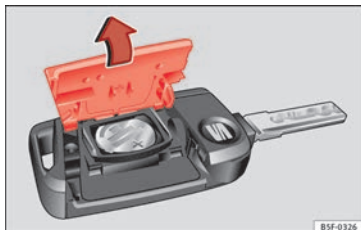

Fig. 137 Vehicle key: opening the battery compartment.
- Remove the cover from the back of the vehicle key » **Fig. 137** in the direction of the arrow » .
- Fit the cover as shown » **Fig. 137**, pressing it onto the vehicle key casing in the opposite direction to that shown by the arrow until it clicks into place.